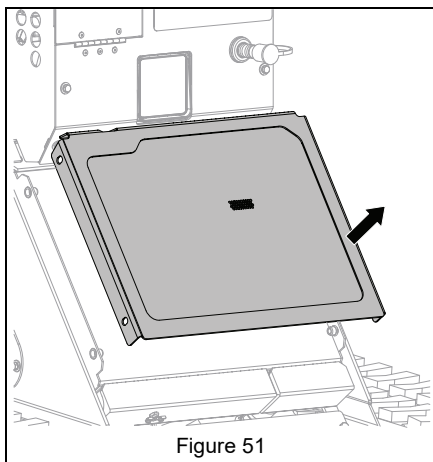

Figure 51
3. Remove radiator cover and set aside. See Figure 51.